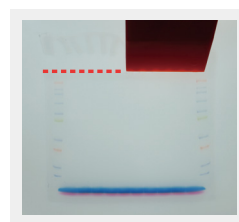

Figure 13. Cut off gel well fingers
5. Cut off the gel well fingers as shown in Figure 13.